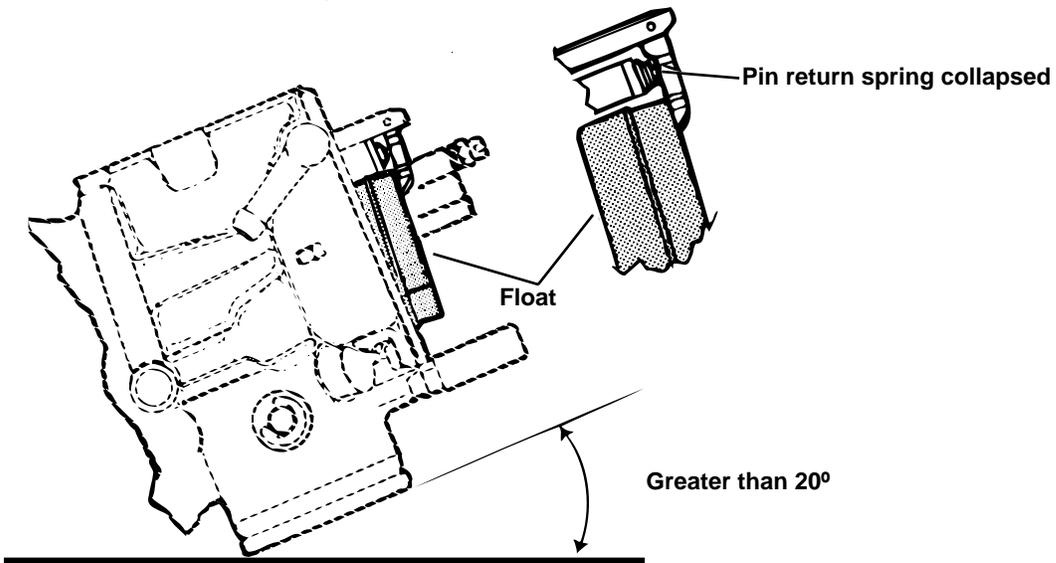

Figure 1. Float adjustment
1. See Figure 1. Place carburetor on a flat, clean surface on engine manifold side. This is the "base". Tilt carburetor counterclockwise 15° to 20° from base until float comes to rest.